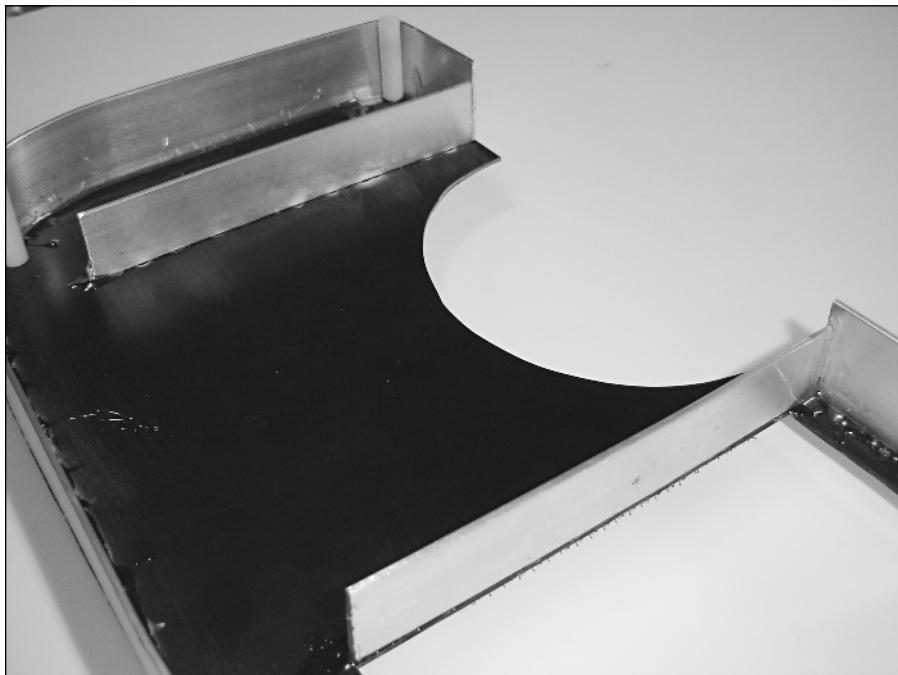

FIGURE 7-14: Inside walls attached to rear plate.
2. Superglue the aluminum strips down onto the thin rectangle lines as shown in Figure 7-14. Place a very thin line of epoxy along the edges, so that no epoxy gets in the way of the battery door or the Player 2 port (which will be installed next).